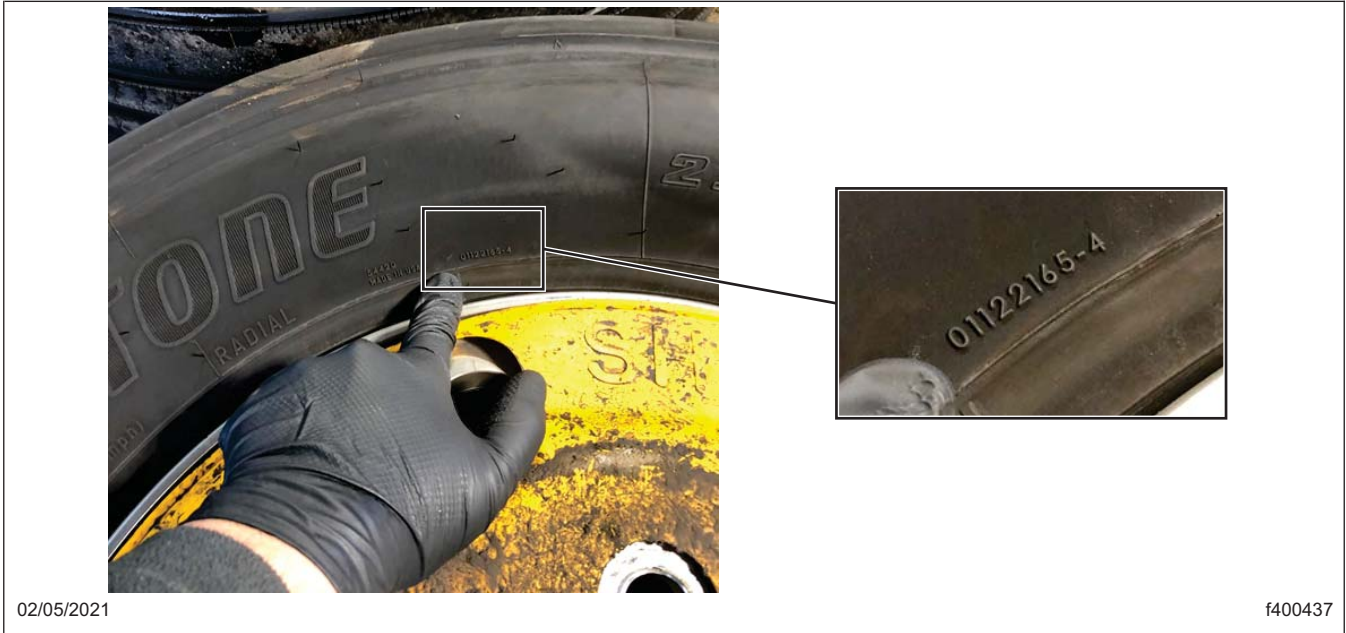

Fig. 6, Bridgestone TIN Location
1. Locate the tire identification number (TIN) on each tire. See Fig. 6.